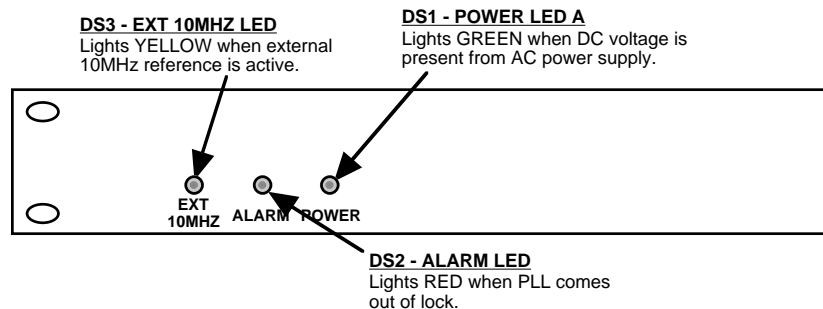

FIGURE 2.2 2116-14T12 Front Panel Controls and Indicators
Figure 2.2 shows the front panel indicators.
4. Be sure DS1 (green, DC Power) is on and DS2 (red, Alarm) is off (Figure 2.2).
6. If EXT is selected or AUTO is selected and there is a 10MHz, 3 dBm signal at J2, check that DS3 (yellow, Ext 10MHZ) is on (Figure 2.2).